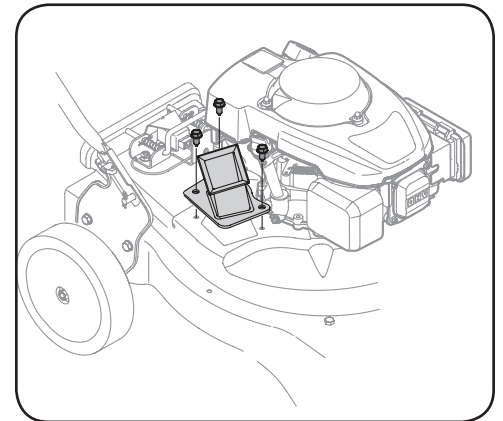

Figure 5-4
3. Remove the three hex cap screws holding the chipper chute to the upper housing. See Figure 5-4.